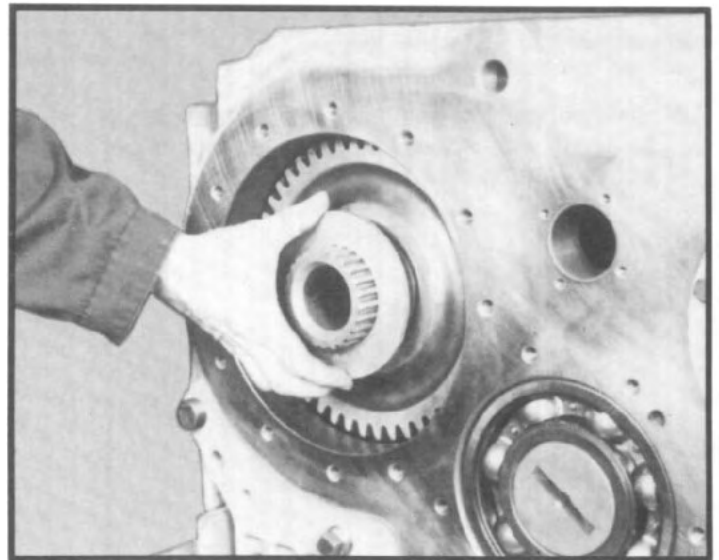

Fig. 120
2.12 Place thrust washer onto rear of shaft and against gear. Place flat side of washer against the gear. (See fig. 120.)